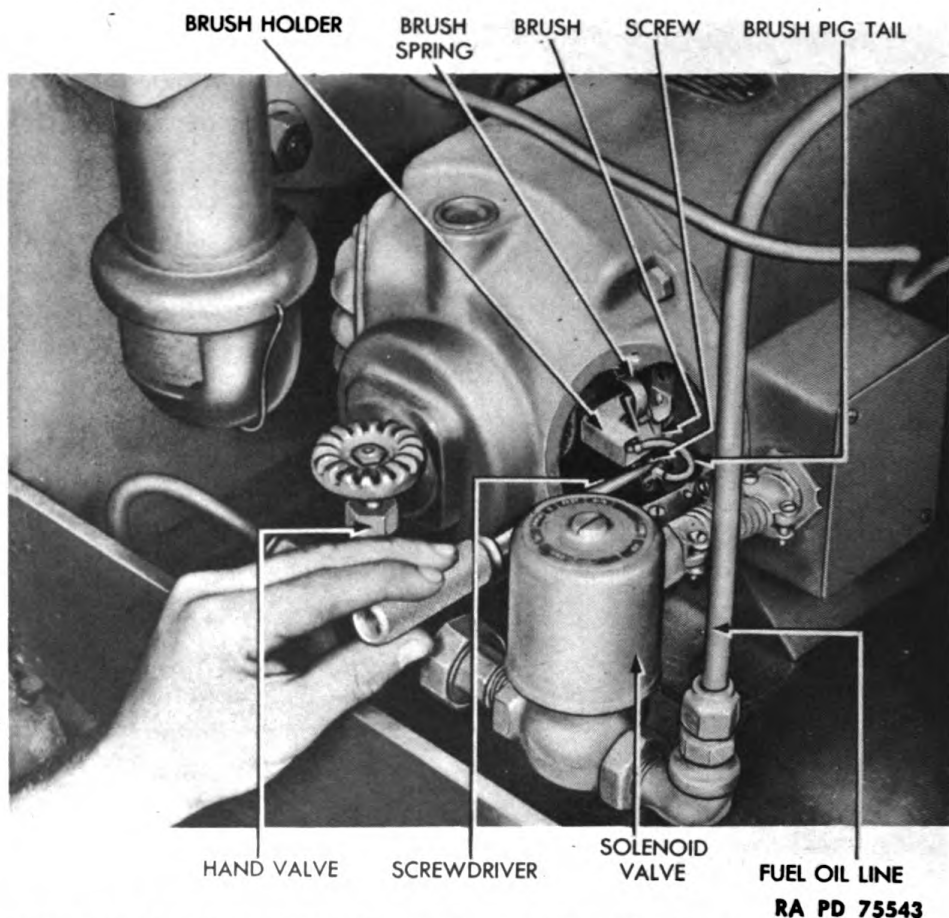

Figure 122 — Removing Steam Generating Plant Generator Brush
(3) REMOVAL OF GENERATOR BRUSH (fig. 122).
(4) INSTALLATION OF GENERATOR BRUSH (fig. 122).
(1) REMOVAL.
(2) INSTALLATION (fig. 122).